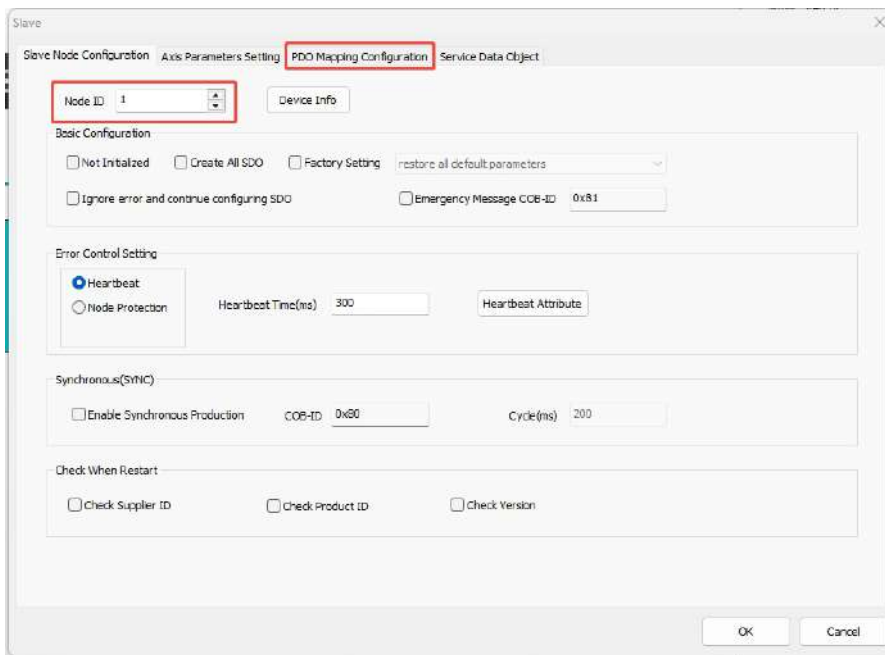

Figure 3-15 Slave Configuration
Step 7: Double-click the slave controller icon on the bus to open the slave configuration interface, as shown in Figure 3-15.